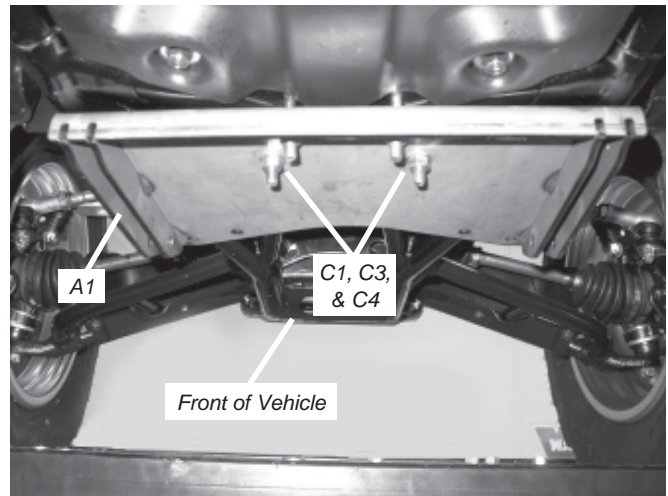

Figure 2 Install Plow Mount
2. Place the plow mount (A1) under the vehicle, and slide the legs of the U-bolts through the four rear holes in the plow mount. Terminate the U-bolt legs with 5/16" dia flat washers (C3) and 5/16" dia nylock nuts (C4) as shown in figure 2.